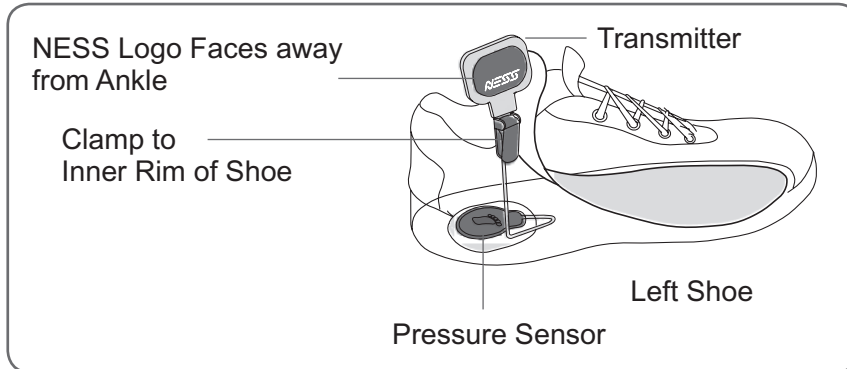

Figure 11: Clamping the transmitter to the inner rim of the shoe.
5. Clamp the Gait Sensor transmitter on to the inner rim of the shoe. Face the NESS logo on the transmitter away from the ankle. See Figure 11.